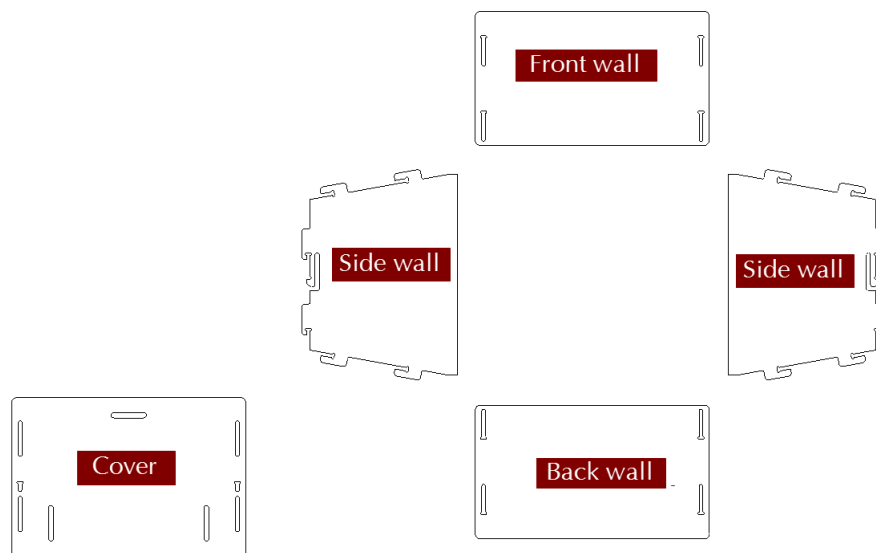
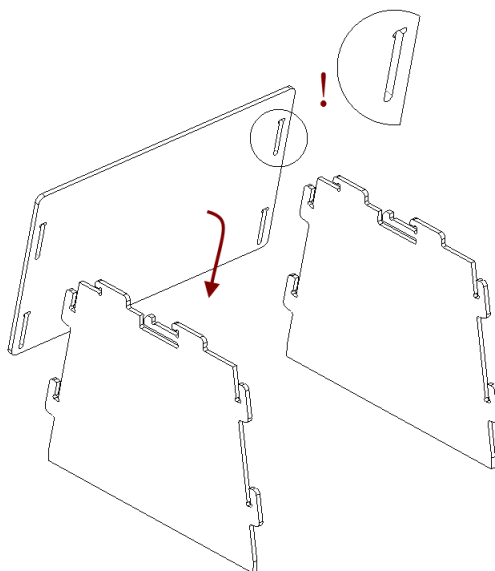
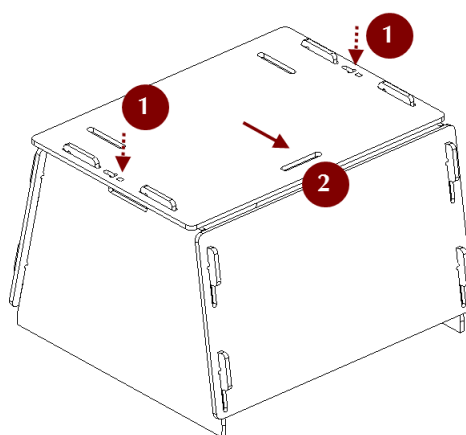

Figure 143: Parts of the scanner stand.
Figure 144: Assembling the front wall.
Figure 147: Latching the cover.
The scanner stand comes unassembled with Artec Spider and consists of five parts (see Figure 143): two side walls, one front and one back wall (these parts are identical, however), and a cover. Before beginning assembly, lay them all out as Figure 143 shows. Then follow these steps:
1. Raise the two side walls to the upright position, as Figure 144 shows. Noting carefully the orientation of the T-shaped slot, install the front wall to the side walls using the two pairs of hooks. Press the front wall and slide it down against the stop. Make sure the three walls are properly aligned with each other.
4. Press your thumbs against the T-shaped holes on the cover and shift it toward the back wall until you hear a click (see Figure 147).
Note: To disassemble the stand, release the detents in the cover's T-shaped slots (see Figure 143) using a thin object like a ballpoint pen. Repeat the assembly steps in reverse order (from Figure 147 to Figure 144), moving the parts in the opposite directions.